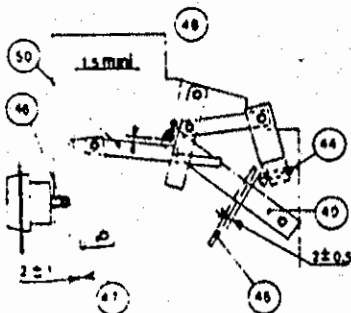

Fig. 22
- A. Adjustment (Fig. 22). Place breaker in tripped position with closing springs fully charged. Adjust screw (44) to obtain 4 ± 0.5 mm (0.158 ± 0.020 inch) clearance between lever (45) and end of screw (44). Adjust screw (46) on trip button for 4 ± 0.5 mm (0.158 ± 0.020 inch) clearance between strip (47) and screw end (46).